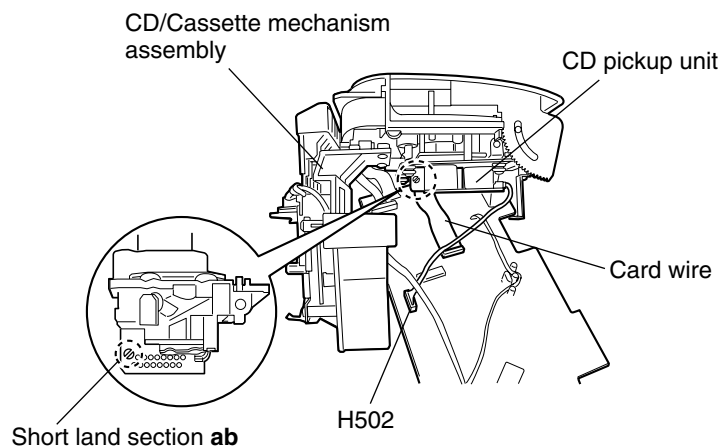

Fig.25
5. Remove the main board from the CD/Cassette mechanism assembly, lift the CD/Cassette mechanism assembly as shown in Fig.25.
6. Disconnect the wire from the connector H502 on the main board. (See Fig.25.)
7. Apply solder to the short land section **ab** on the CD pickup unit. (See Fig.25.)
8. After soldering, disconnect the card wire from the CD pickup unit and then remove the main board. (See Fig.25.)